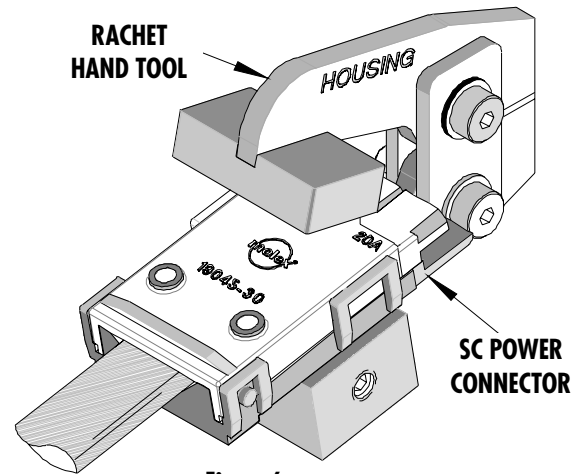

Figure 6
6. With the connector in position as shown in Figure 6, push the handles together simultaneously until fully closed and the latches are fully seated. In some instances a second squeeze is necessary to set both latches, especially on wider connectors.